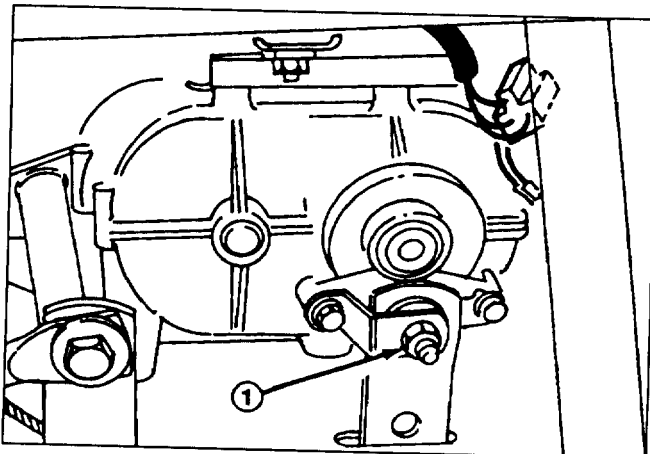

Figure 32
3. Tighten locknut approximately 1/4 turn clockwise (Fig. 32).